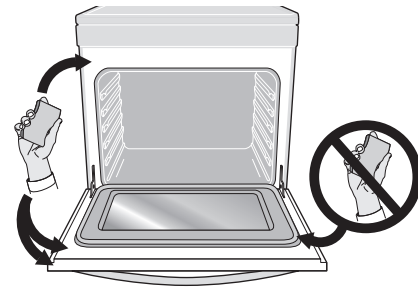

Figure 22: Areas to clean and areas to avoid (gasket)
- Do not spray oven cleaners or oven protective coatings in or around any part of the oven interior. Clean any soil from the oven frame, the door liner outside the oven door gasket, and the small area at the front center of the oven bottom (Figure 22). These areas heat sufficiently to burn soil on. Clean using soap and water prior to starting Self Clean.